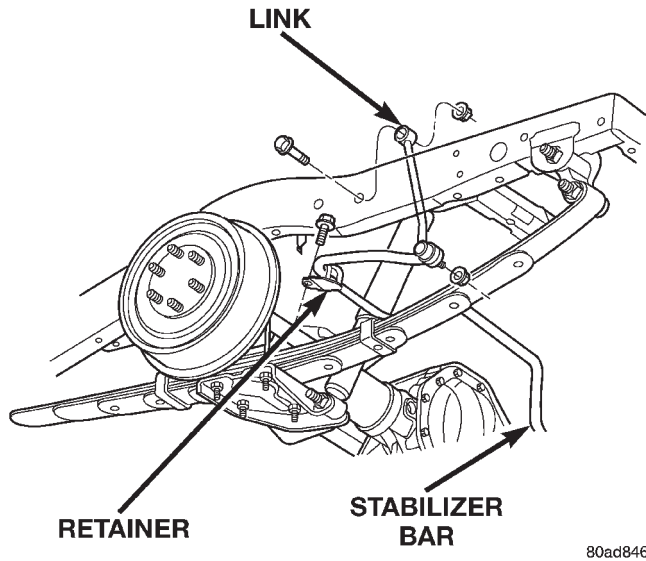

Fig. 3 Stabilizer Bar Mounting
- (1) Raise and support vehicle.
- (2) Remove links upper mounting nuts and bolts.
- (3) Remove the cotter pins and nuts from the links at the stabilizer bar.
- (4) Separate the links from the stabilizer bar with Puller C-3894-A and remove the links.
- (5) Remove stabilizer bar retainer bolts and retainers (Fig. 3).
- (6) Remove stabilizer bar and remove bushings.